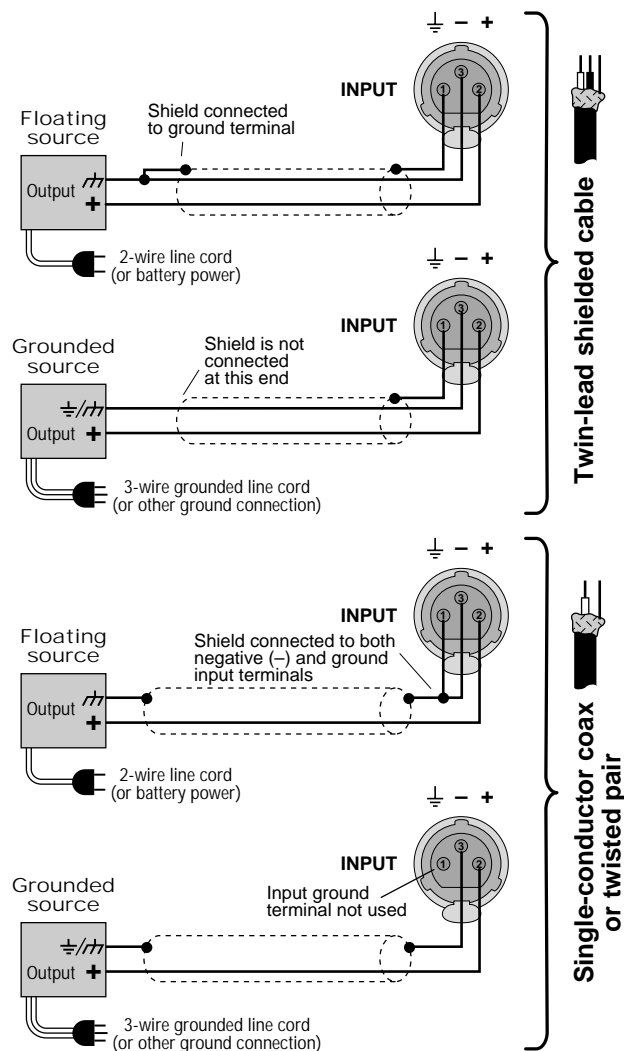
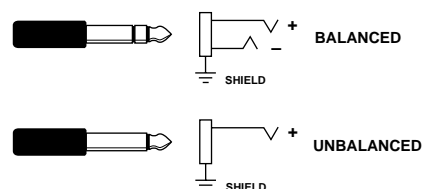

Fig. 3.7 Unbalanced Input Wiring
Fig. 3.9 Balanced and Unbalanced Phone Plugs
Both the balanced XLR and phone jack inputs have a nominal impedance of 20 K ohms (10 K ohms with unbalanced wiring) and will accept the line-level output of most devices. Female XLR input connectors are provided on the standard P.I.P.-FX input module (other P.I.P. modules are described in Section 8.1). Correct input wiring will depend on two factors: (1) whether the input signals are balanced or unbalanced, and (2) whether the signal source floats or has a ground reference. Figures 3.7 and 3.8 show the recommended connection techniques for each type of signal source.
have a standard tip-ring-sleeve (TRS) configuration: the tip is positive (+), the ring is negative (-) and the sleeve is ground (see Figure 3.9). Wiring for various sources follows the XLR wiring guidelines shown in Figures 3.7 and 3.8.